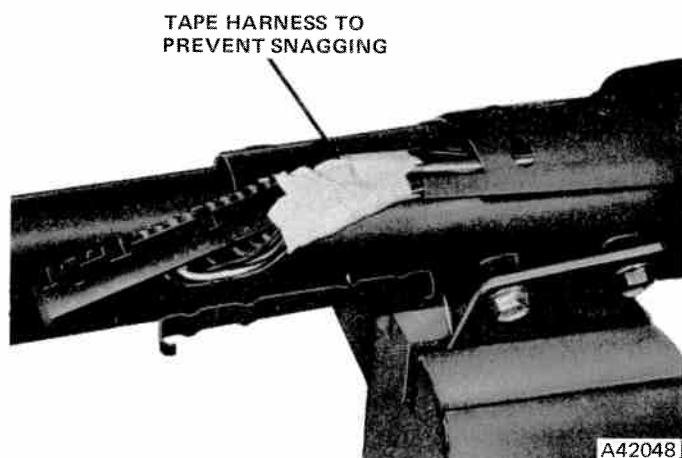

Fig. 11-8 Steering Column Harness Removal
- (14) Use a stiff wire (paper clip) to depress lock tab retaining shift quadrant light wire in connector block.
- (15) Remove plastic harness protector from column jacket.
- (16) Wrap a piece of tape around upper harness connector to prevent snapping and remove harness (fig. 11-8).